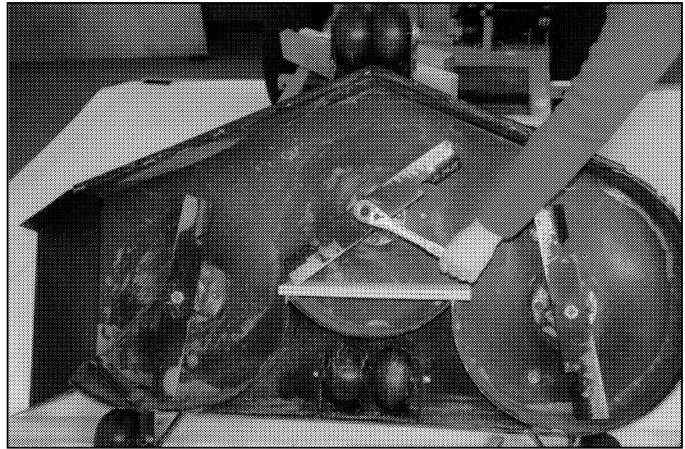

Figure 17
1. To remove the deck, follow the instructions on page 14, then invert the deck as shown in Figure 17.
3. Remove the blades. A short piece of 2 x 4 lumber may be placed between the side of the deck and the blade to "lock" it in position when loosening the attaching hardware (*Figure 17*).